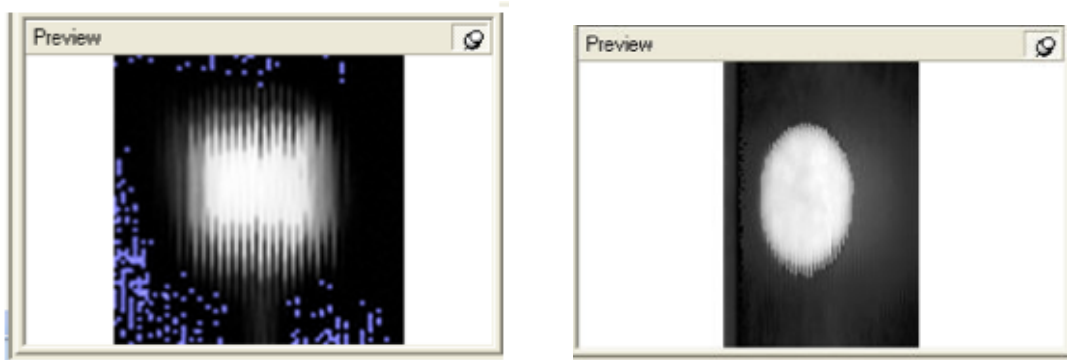

Figure 5. Here is a comparison between a bad tie point image (left) and a good tie point image (right) (Rigel USA, 2007).
- 6.3.7. If a tie point image is oddly shaped (Fig. 5) or is not close to original size, re-scan by selecting only that tie point and click “Fine-scan tie points” again.